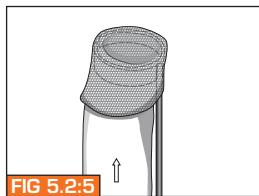

FIG 5.2:5
2. Mark out one meter using a marker from the end that will eventually be tied together with the pull strap. **FIG 5.2:3** That part must later be cut off after the liner has been impregnated. The last metre of liner takes care of any excess epoxy and must be cut away after rolling.
3. Seal the end with duct tape and cut a "X" in the liner of about 20 x 20 mm in order to suck vacuum. **FIG 5.2:3** The "X" must be cut about 100 mm in from the tape. There must be enough tape to wrap at least once around the liner with an overlap. The suction cup must then be placed on the cut "X".
5. Fold a collar on the end that is to be attached to the inversion. The collar is to be suspended on the liner holder **FIG 5.2:5**, which facilitate filling epoxy in the liner.